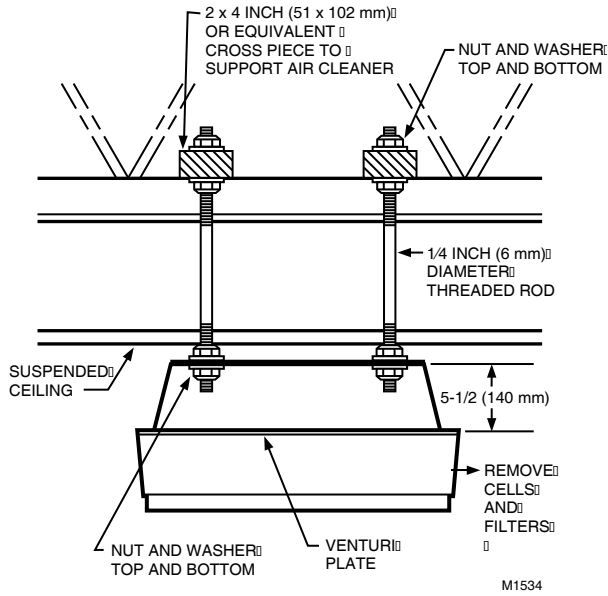

Fig. 9. Mounting the F90 using steel rods in suspended ceiling applications.
- Mounted into a suspended ceiling using threaded steel rods. See Fig. 9.
1. Arrange two 2 x 4 supports as shown in Fig. 9.